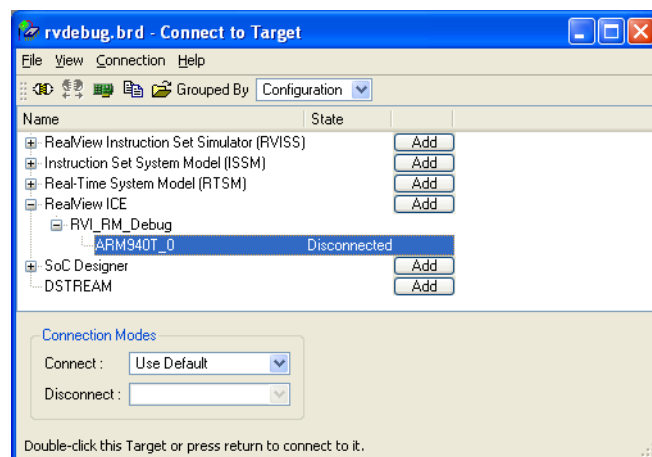

Figure 3-4 RealMonitor Debug Configuration for debugging
3. Change the name of the Debug Configuration. For this example, change the name of the RealView ICE configuration to **RVI_RM_Debug**. Figure 3-4 shows an example: